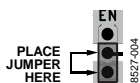

Figure 3. Disabled Jumper Position
- Use a jumper to connect the bottom two pins of the EN test bus. This connects EN to GND and disables the converter (see Figure 3).